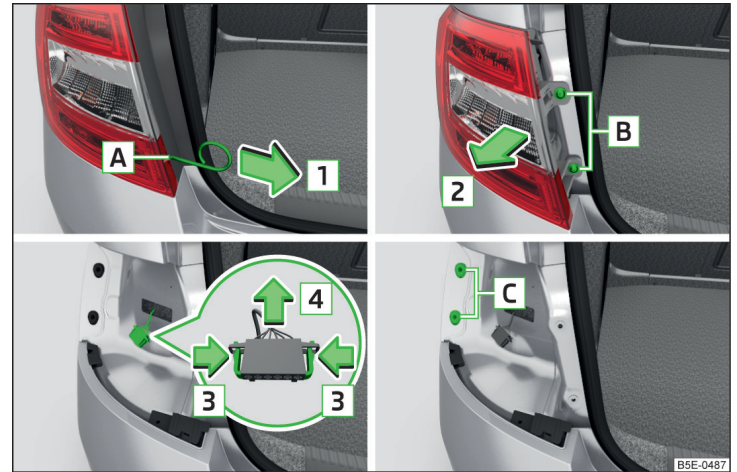
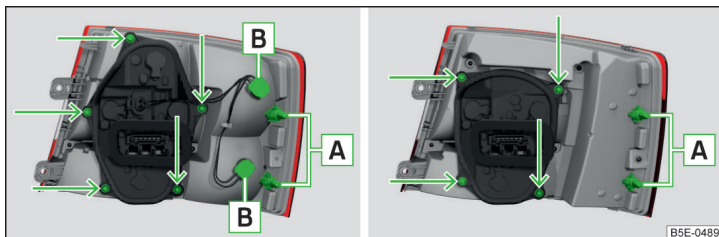

Fig. 231 Remove light / pull out connector
Fig. 232 Outer part of the light: Basic light/light with LED diodes
- Insert into opening **A** ¹⁾ » Fig. 231 the clamps for removing the full wheel covers » page 212, *Vehicle tool kit*.
- Insert the lamp with the pin **A** » Fig. 232 on page 236 into the recesses **C** » Fig. 231 in the body.
- Turn the bulb holder **B** » Fig. 232 in an **anti-clockwise** direction and remove it from the lamp housing.
- Unscrew the lamp holder » Fig. 232 with the screwdriver from the car tool kit, and remove the lamp holder from the light assembly.